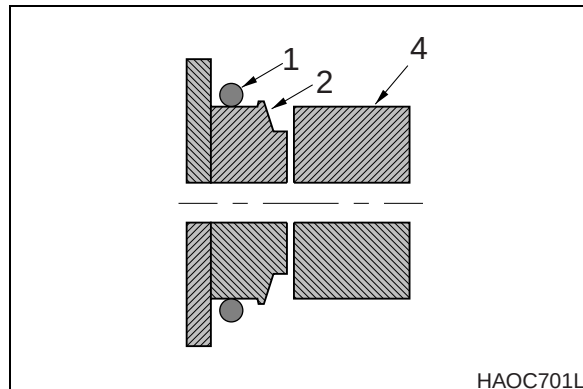

Figure 4
3. Remove the old O-ring and temporarily install the new O-ring (1, Figure 4) onto the bucket boss (2). Make sure that the O-ring groove on both the bucket link (4) and boss have been cleaned.